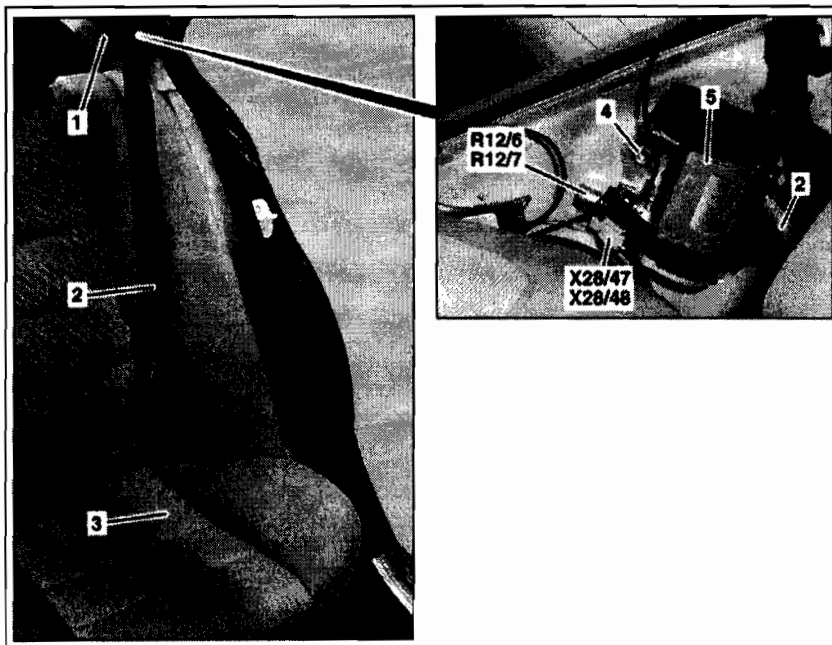

Figure 1
2. Remove left C-pillar paneling (1, Figure 1), refer to WIS: AR68.30-P-4490CW.
Refer to WIS: AR68.30-P-4490CW to remove the C-pillar paneling (1, Figure 1), seat cushion (3, Figure 1) and the lower mounting bolt.
3. Disconnect left rear emergency tensioning retractor squib electrical connector (X28/47, Figure 1) from left rear emergency tensioning retractor squib (R12/6).
X28/48 (Figure 1):
4. Remove bolt (4, Figure 1) from automatic belt retractor (5) and remove automatic belt retractor (5).